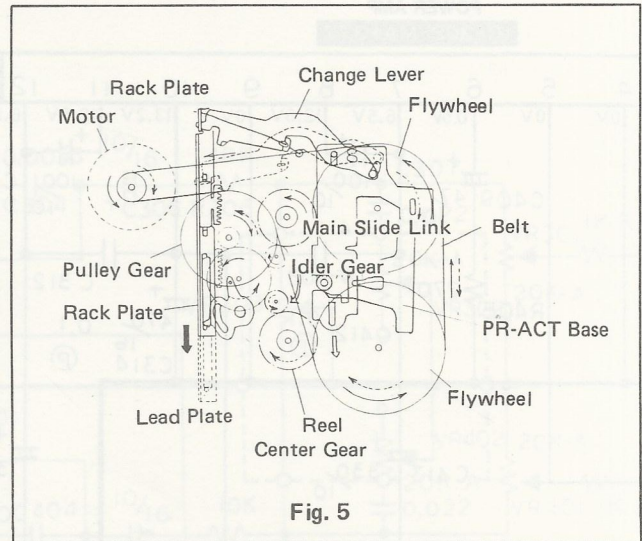

Fig. 5
4. MECHANISM and Operation for the Completion of Tape-Running (Auto-reverse-operation . . . Ref. Fig. 5)